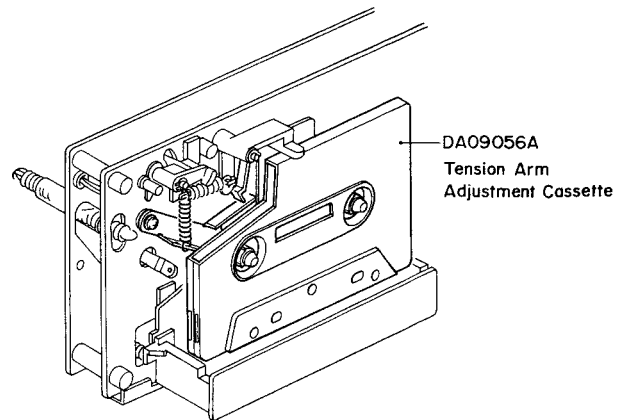
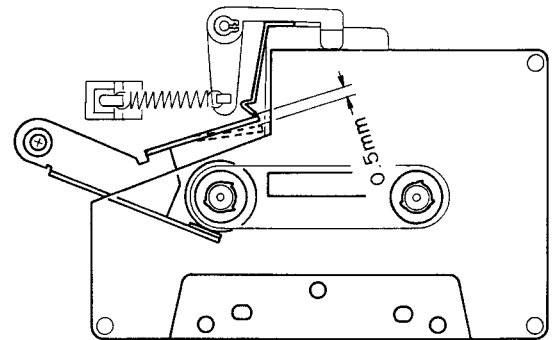

Fig. 4.12
Fig. 4.13
Refer to Figs. 4.12 – 4.14.
- (1) Load a Tension Arm Adjustment Cassette (DA09056A) in the N-482Z referring to Fig. 4.12.
- (2) Set the N-482Z in Play mode.
- (3) Bend the Back Tension Arm with pliers so that the gap between the Cassette Holding Spring assembled on the Head Base Ass'y and the Back Tension Arm becomes 0.5 mm as shown in Fig. 4.13. Do not bend the top of the Back Tension Arm.
- (4) Load the Back Tension Gauge (DA09055A) in the N-482Z.
- (5) Set the N-482Z in Play mode and read the torque value of Back Tension Gauge.